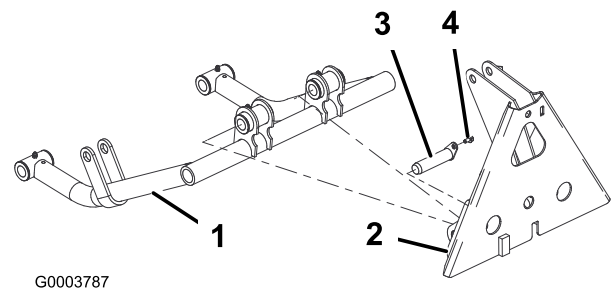

Figure 7
2. Secure the push arm tube to the adapter plate with 2 pin assemblies. Secure the pin assemblies to the adapter plates with 2 thread forming screws. Position the components as shown in Figure 7.